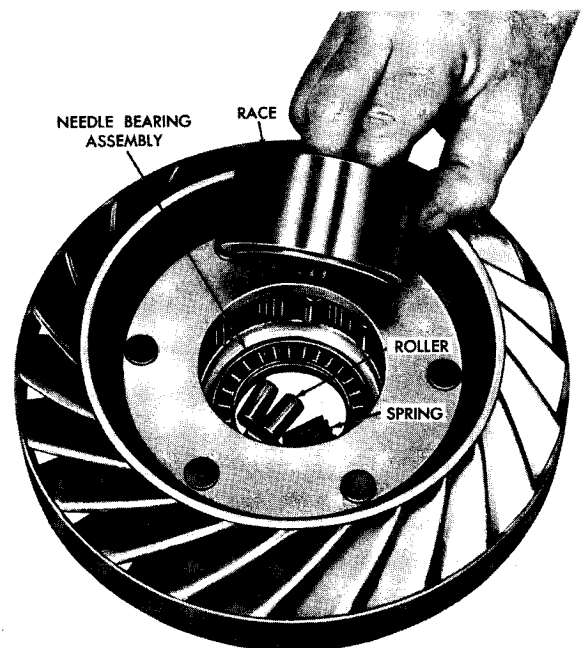

Fig. IX-2 Removing freewheel roller race
(1) Position stator assembly 13 on the bench so that freewheel roller race 15 is up ward.
(2) Remove the freewheel roller race by rotating it clockwise while lifting it out of converter stator and cam assembly (fig. IX-2).
(3) Remove the 10 rollers and 10 springs from the stator and cam assembly (fig. IX-2).
(4) Check needle bearing assembly 14. Wash and flush the needle bearing assembly thoroughly with dry cleaning solvent or mineral spirits paint thinner. Dry it and lubricate it with transmission oil. Replace the freewheel race only and rotate the bearing while pressing upon the freewheel race. If there is no roughness or binding, the needle bearing as-